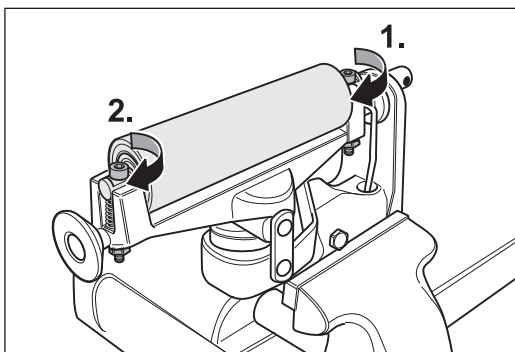
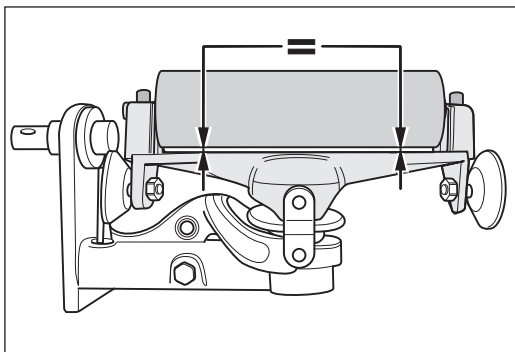

Fig. 84 Tighten the side without spring (1.) and then the side with spring (2.), so that ...
Fig. 85 ... the tensioning roller is positioned parallel to the top of the drive unit.
- 7 Tighten the screw of the unsprung bearing pedestal side (Fig. 84, 1.).
- 8 Turn the screw on the sprung side of the tensioning roller (Fig. 84, 2.) far enough so that the tensioning roller is positioned parallel to the upper part of the drive unit (Fig. 85).